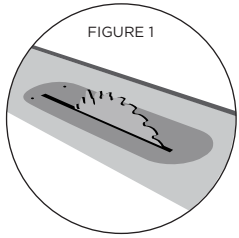

FIGURE 1
3. The wheel (A), located in front, raises and lowers the blade (FIG. 1). Raise the blade so that three entire gullets are exposed above the material (FIG. 2). Tighten the knob to lock it in place. The second dial to the right (B) is used to adjust the angle of the blade. Once the desired angle is set, tighten the knob to lock it in place.